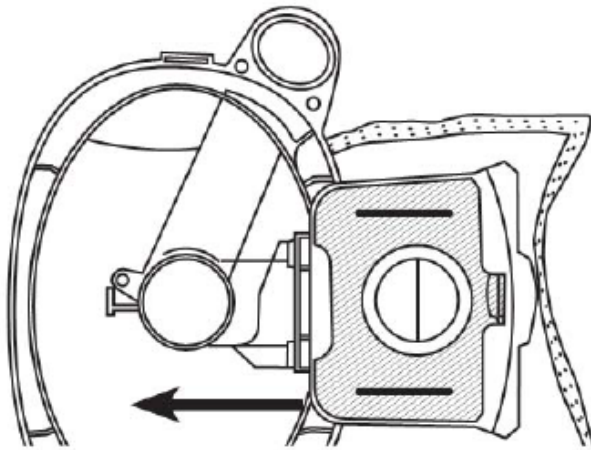

Fig 3
5. The cardboard face of the new bag should rest securely in the dust bag cover guide. (Fig 3)